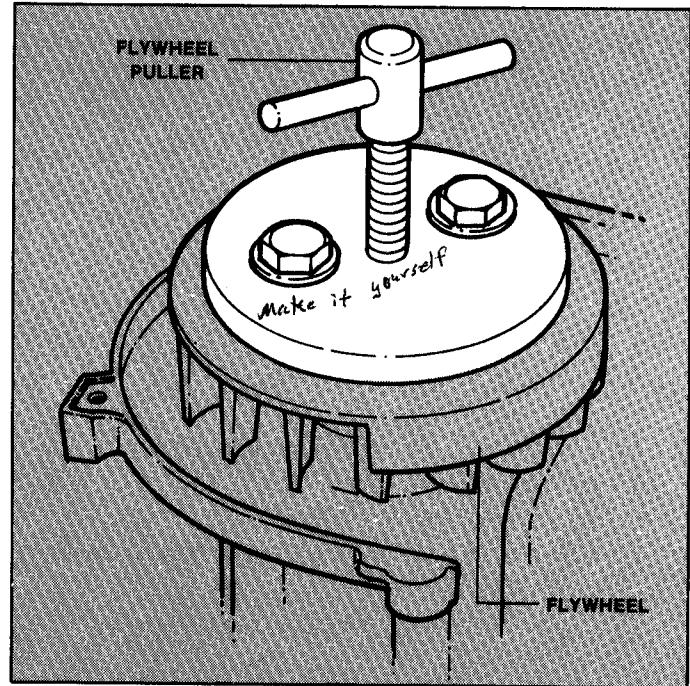

FIGURE 4.4
- B. Use flywheel puller to remove flywheel. See Figure 4.4.